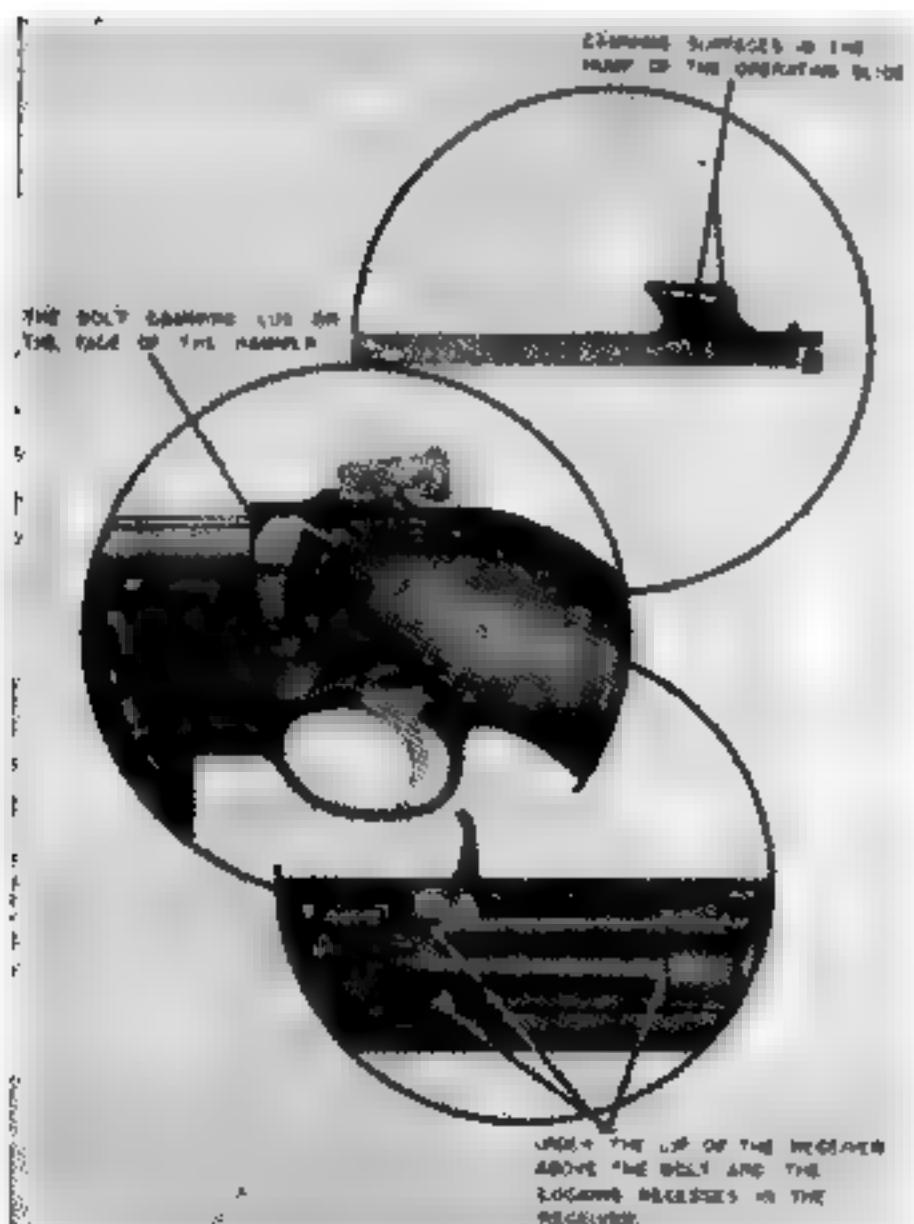

Figure 43b. Points on which to apply rifle grease.
- (3) Cocking cam on rear of bolt and firing pin tang recess.*
- (4) Contact surface of barrel and operating slide.*
- (5) Operating slide spring guide.*
- (6) Operating slide handle grooves on side of the receiver.*
- (7) Operating slide grooves in barrel.*
- (8) Contacting surface of receiver and operating slide.*
- (9) Cammed surfaces in the hump of the operating slide.*
- (10) Piston.*
- (11) Magazine catch and magazine catch plunger.*
- (12) Operating slide stop.*
e. Use rifle grease if the carbine is exposed to a great deal of rain or to spray from sea water, because the bolt may occasionally fail to open. This is caused by the friction resulting from the effect of the water and the fact that any ordinary lubricant is likely to be washed away from certain bearing surfaces. Under these conditions, it is essential that such surfaces be coated with rifle grease which resists the action of the water. Apply rifle grease to the parts shown in Figure 43b after wiping them clean and dry with a cloth. Rifle grease is not normally applied to other parts. After applying rifle grease, work the parts several times to spread the grease.
- (1) *Keep the bore and chamber clean.* Do not fire the carbine when dirt, mud, snow, or any other obstruction is in the bore. Such obstructions are extremely dangerous and may cause the barrel to swell or burst. Use a cleaning rod, if one is available, or the thong and brush which you should have. If these are not available, any slender rod or stiff wire can be used as a field expedient. Using any one of these, keep the bore and chamber clean and lightly oiled.
- (2) *Avoid excessive friction.* If the carbine shows signs of excessive friction due to lack of lubrication, apply oil to the parts that need it. If this friction is the result of dirt and there is no time to clean the carbine, use an extra amount of oil in the places needed. Friction is indicated if the empty cartridge cases are being ejected to the right rear or if the action of the bolt is sluggish. Apply oil at the first opportunity, as failure to chamber and eject will occur if the condition is not corrected.
- (3) *Use extra care under severe conditions.* If the carbine is to be exposed to severe conditions of rain or salt water, apply rifle grease. The points on which to apply this grease are shown in Figure 43b.